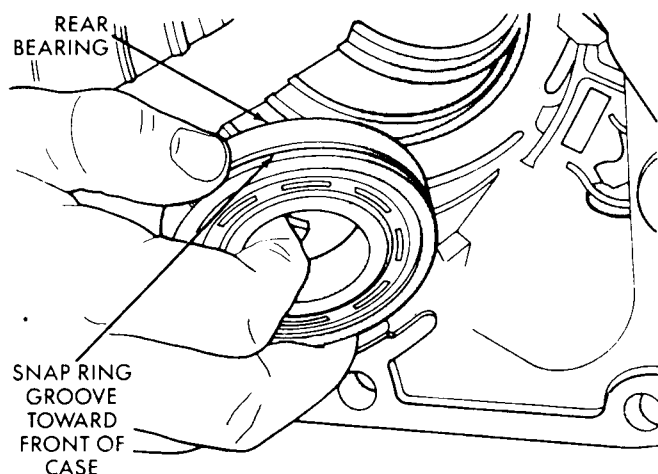

Fig. 2—Install Output Shaft Rear Bearing
(2) Install output shaft rear bearing in the case. Snap ring groove is toward front of case (Fig. 2).